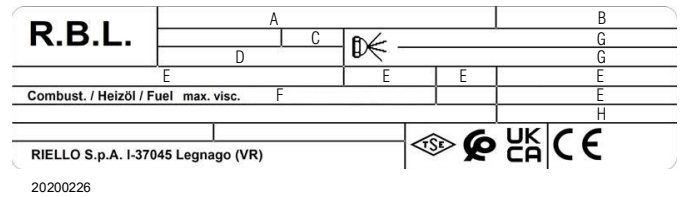

Fig. 5
Check the identification label (Fig. 5) of the burner, showing:
- the model **A**) (Fig. 5) and type of burner **B**);